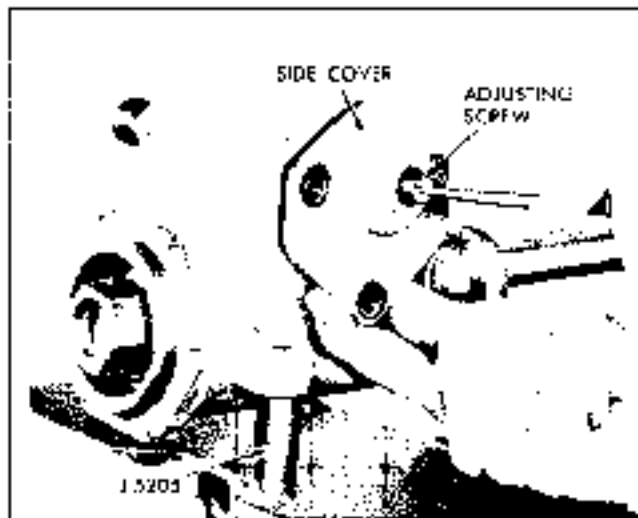

Fig. 9-40 Removing Side Cover
3. Remove side cover and gasket by turning adjusting screw clockwise through cover (Fig. 9-40).